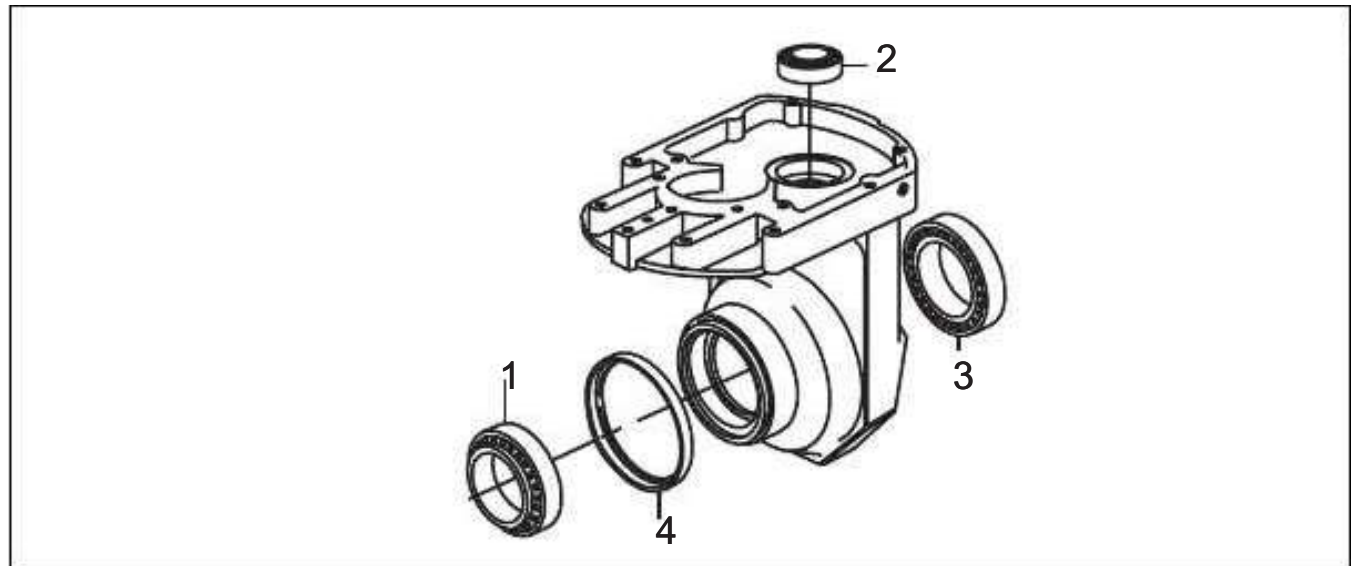

**Figure 5.2** Preparations for gearbox housing
1. Preparation of the gearbox housing (see figure 5.2)